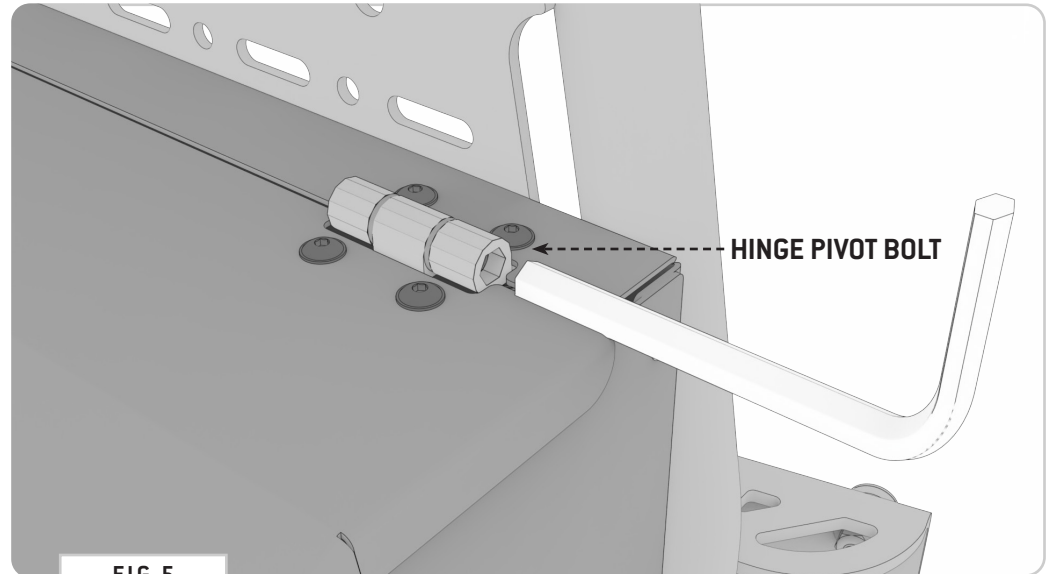

FIG 5
3.1 The adjustable torque hinges can be adjusted using a **5MM Allen Wrench**. Tighten the **Hinge Pivot Bolt** to increase torque, loosen **Hinge Pivot Bolt** to decrease torque (**FIG 5**).